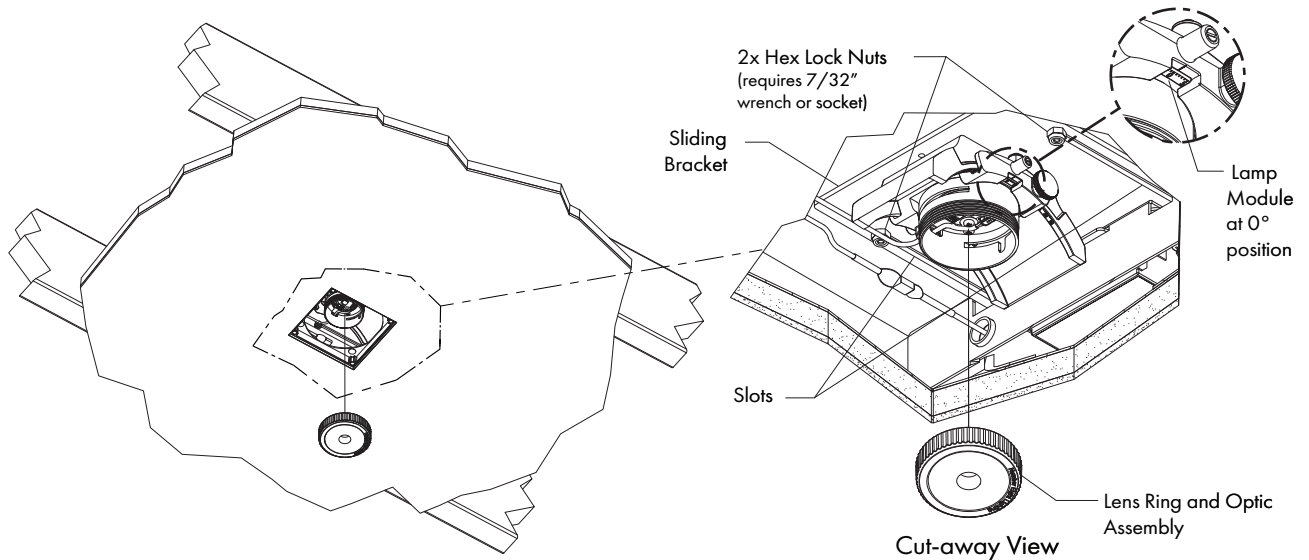

FIG 9.1 Sliding Bracket Adjustment
- STEP 1 Adjust Lamp Module to 0° position and remove Lens Ring and Optic Assembly as shown in **FIG 9.1**.
STEP 2 Locate and loosen (DO NOT REMOVE) 2x Hex Lock Nuts as shown in **FIG 9.1**.
STEP 7 Replace Lens Ring and Optic Assembly - See **FIG 9.1**.